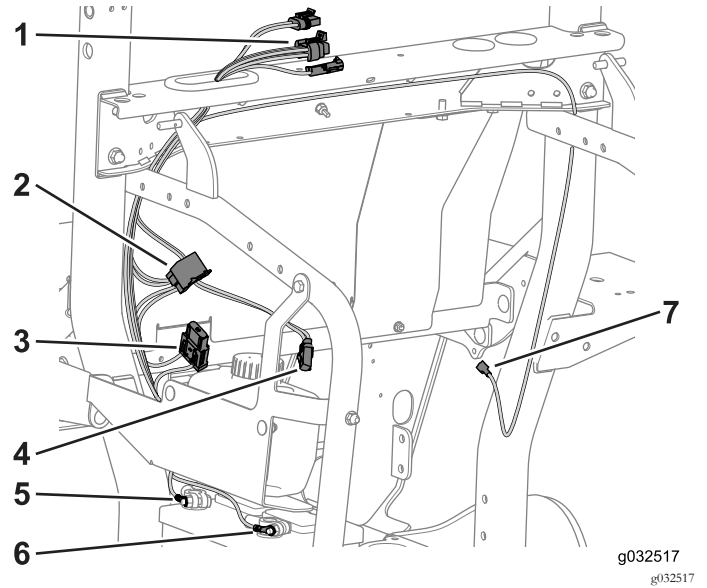

Figure 37
1. Route the 3 cab connectors through the grommet (Figure 37).
2. Route the auxiliary-power wire across the frame support, down along the ROPS tube, and toward the operator controls (Figure 37).